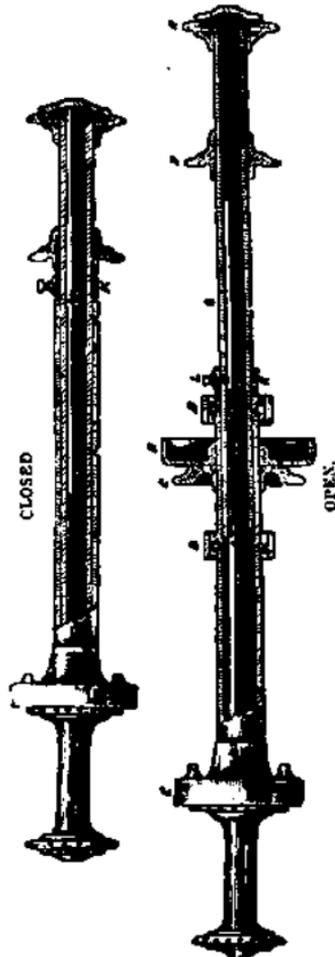

FIG 68.—PATENT TELESCOPIC AXLE.
Another capital invention, which deserves separate notice, is the Telescopic Axle; we have commented on it before, but are now enabled to illustrate its action. Outwardly it presents exactly the same appearance as an ordinary continuous axle (see Fig. 68). Instead of being all in one piece, there are really three axles: First, the solid steel axle (F), on which the left wheel runs loosely, driven by the gear (E). Outside this there is a double sleeve—i.e., two tubes, one within the other; on the right portion (G), which is secured to the solid axle, and revolves with it, the right wheel (H H) is fixed; but this part slides within the left—a larger sleeve, or outer case tube—when the machine is telescoped. To accomplish this, the nut (L) has to be slackened, in the collar (K), when the axle can be shut up, as in Fig. 68. This reduces the width from 38in. or 42in. to 27in. or 30in., narrow enough for the machine to be wheeled through a doorway. The action is simplicity itself—only the nut has to be slackened, when the machine can be at once closed; in either form it is firm and rigid. To the left side the frame is attached, by ball bearings (B), to the outer sleeve, and on the latter the chain pulley (C) and brake drum (D) are placed. This axle can be applied to the Springfield, or any of Singer's machines, for £2 extra.